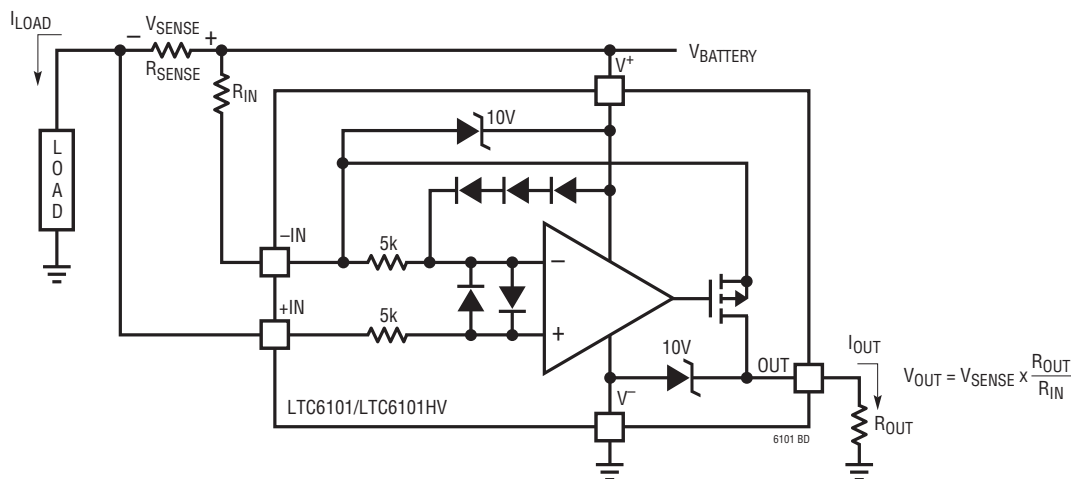

Figure 1. LTC6101/LTC6101HV Block Diagram and Typical Connection
**-IN:** The internal sense amplifier will drive IN- to the same potential as IN+. A resistor (RIN) tied from V+ to IN- sets the output current  $I_{OUT} = V_{SENSE}/R_{IN}$ . VSENSE is the voltage developed across the external RSENSE (Figure 1).
The LTC6101 high side current sense amplifier (Figure 1) provides accurate monitoring of current through a user-selected sense resistor. The sense voltage is amplified by a user-selected gain and level shifted from the positive power supply to a ground-referred output. The output signal is analog and may be used as is or processed with an output filter.